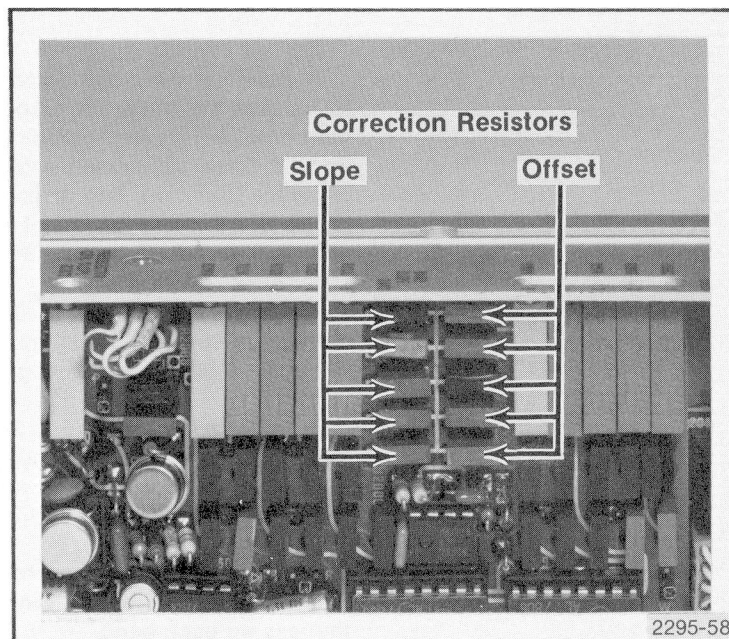

Fig. 4-50. Location of Preselector Driver Slope and Offset Correction Resistors Listed in Table 4-7.
*The Preselector Driver board has two rows of pads (see Fig. 4-50) that are to be used when installing correction resistors. The row of pads labeled SER, for series, have shorting straps located on the back side of the board. These straps must be removed before the resistor is installed. The row of pads labeled PAR, for parallel, does not have shorting straps.*